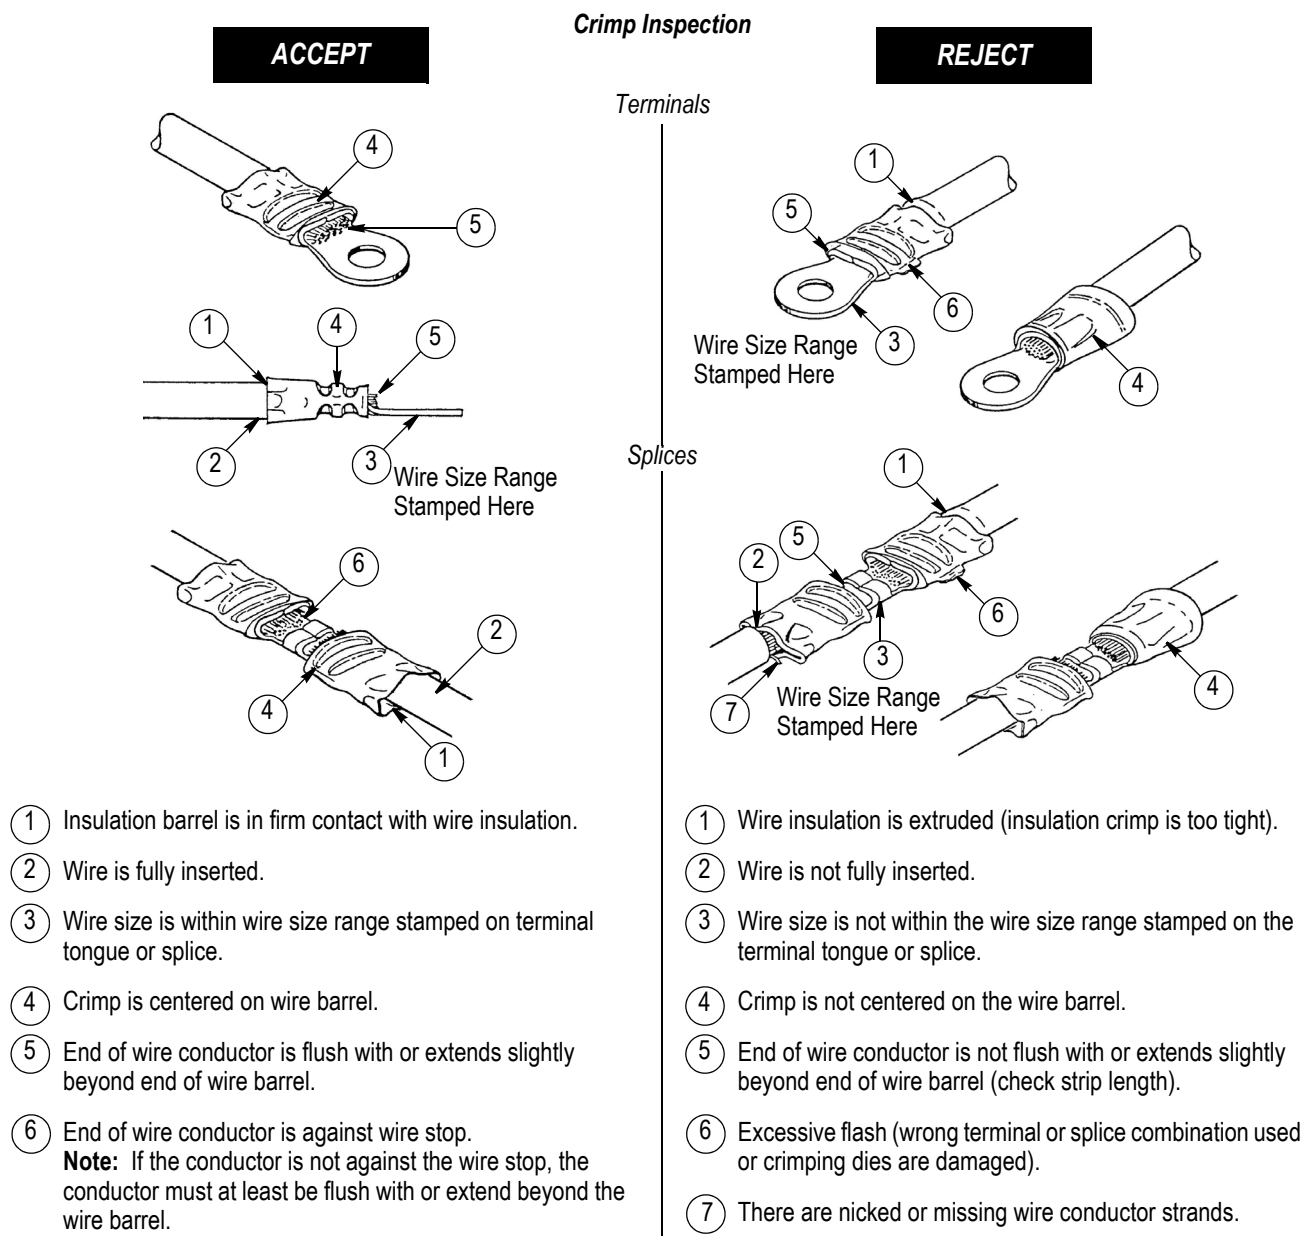

Figure 4
8. Inspect the crimped terminal or splice according to Figure 4.
- Added Figure 4